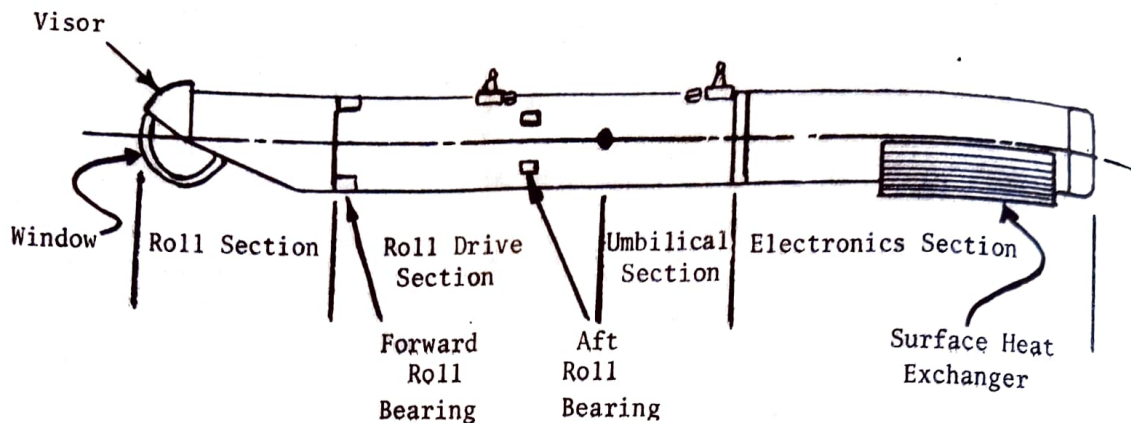

Figure 9, Pod Structure
- (1) Weapons Release Computer Set AN/ASQ-91 (WRCS).
- (2) Inertial Navigation Set AN/ASN-63 (INS).
- (3) Navigation Computer AN/ASN-46A.
- (4) Optical Sight AN/ASG-26.
- (5) Attitude Director Indicator (ADI).
- (6) Radar Set AN/APQ-120(V).
d. Pod Structure: (See Figure 9).
(1) The nose of the pod has a glass dome which is protected by a visor when the pod is stowed and rolled upward, under the aircraft surface. The visor protects the dome during supersonic flight and flight through rain. The visor contains a heater to minimize icing in the window area. The nose compartment is pressurized with nitrogen and contains a heat exchanger to control humidity and temperature. A plunger-type indicator provides preflight inspection of the nitrogen pressure available.